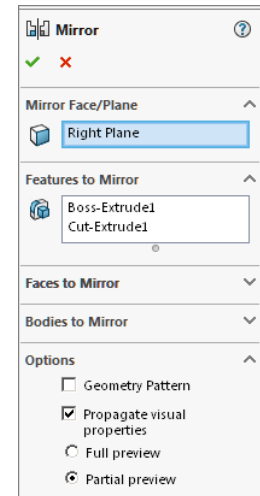

Fig. 43
Step 3. In the Mirror Property Manager click OK , **Fig. 43**.